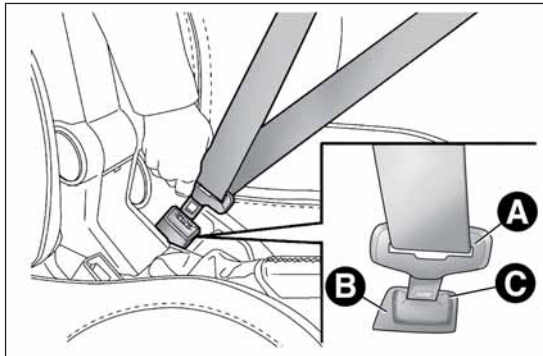

fig. 89
Wear the belt keeping the torso straight and rested against the backrest. To fasten the belts, hold the tongue A fig. 89 and insert it into the buckle B, until you hear it click into place.
**Never press button C fig. 89 when travelling.**